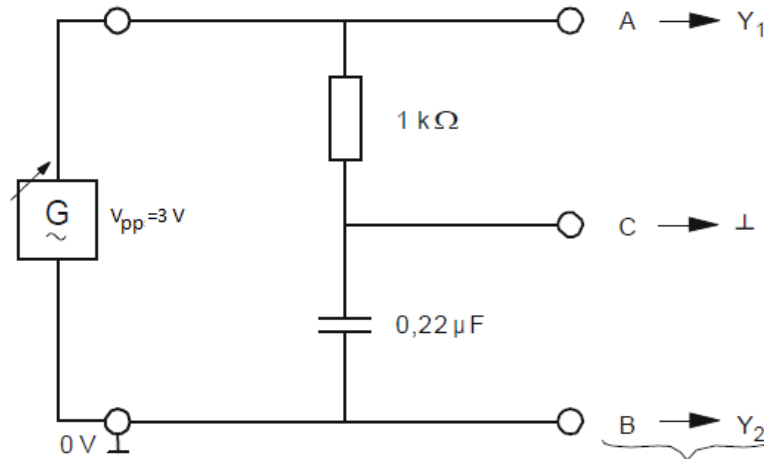

Figure 7
- 6) Connect the circuit as shown in **Figure 7**, such that the voltage source is replaced by a sinusoidal signal whose peak to peak amplitude is $v_{pp} = 3\text{ V}$ and the frequency is $f = 1\text{ kHz}$.